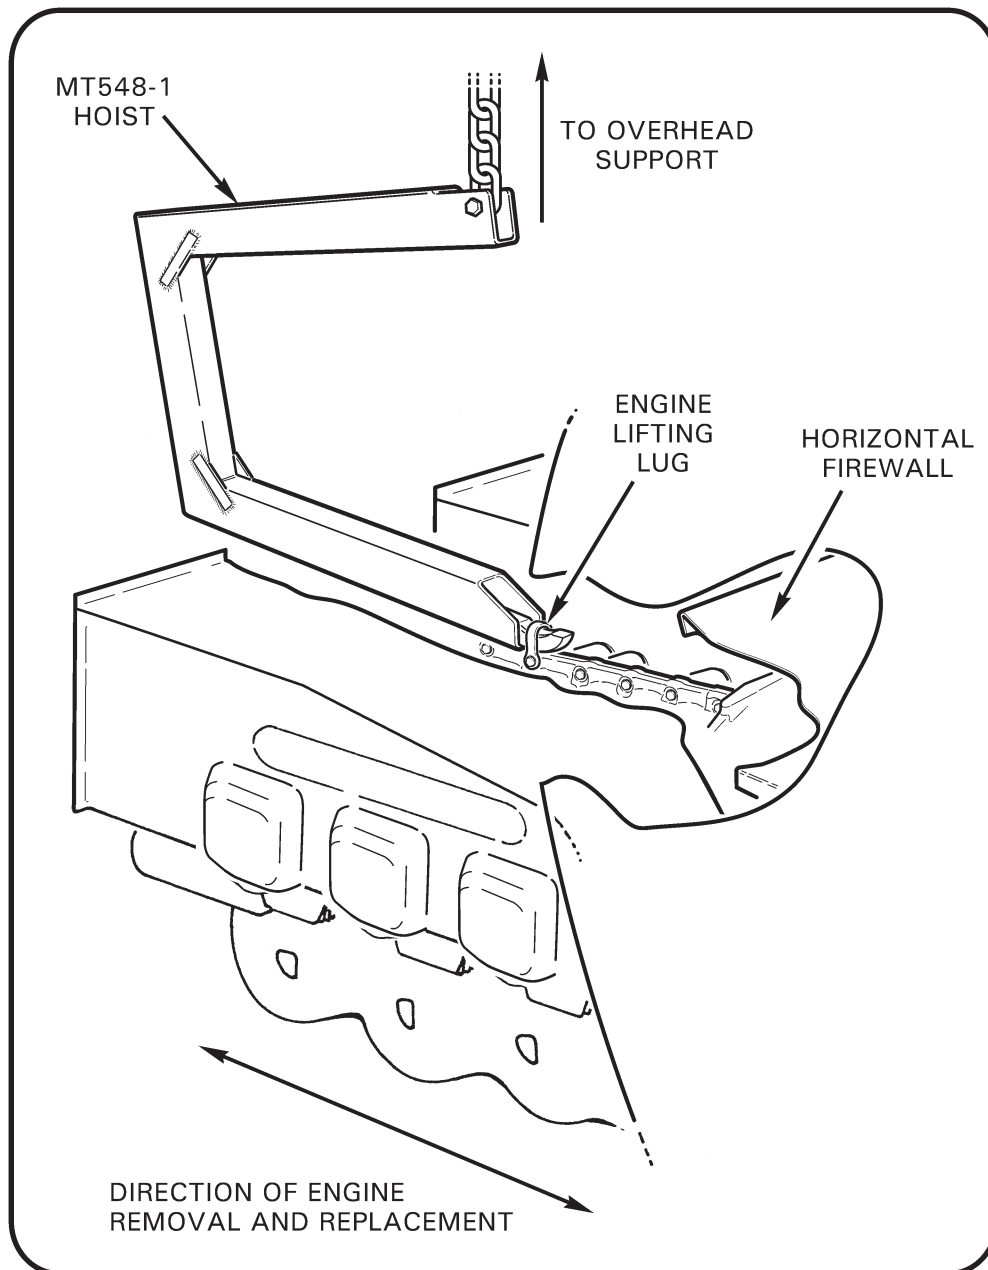

FIGURE 6-1 ENGINE HOISTING
15. Refer to Figure 6-1. Support engine at lifting lug using MT548-1 or -8 tool with a hoist.
1. Refer to Figure 6-1. Connect MT548-1 or -8 tool to engine lifting lug. Carefully hoist engine and position it into alignment with engine mounting pads.